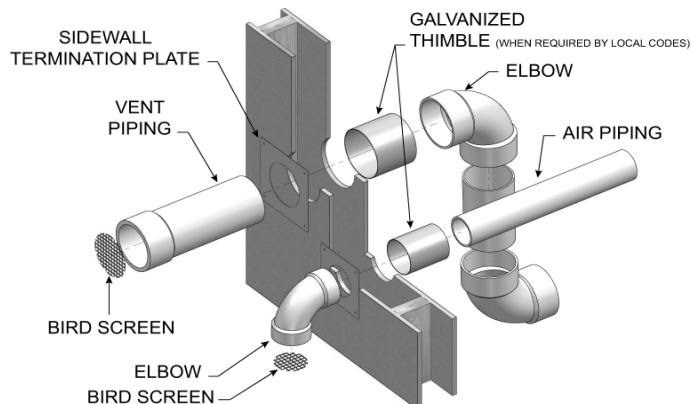

Figure 32. A Typical Sidewall Termination Assembly - Models 150 - 800 PVC/CPVC or Stainless Steel
- a. Insert a galvanized metal thimble in the vent pipe hole as shown in Figure 32.